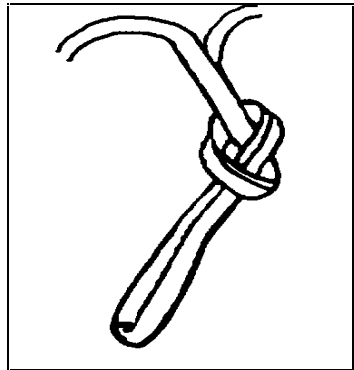

Figure 5.
Step 3.) Form a loop for the toggle by tying an overhand knot (using the instructions in the Parachute Manual by Dan Poynter) approximately one and one-quarter inch (1-1/4") from the factory mark. (See Figure 5)